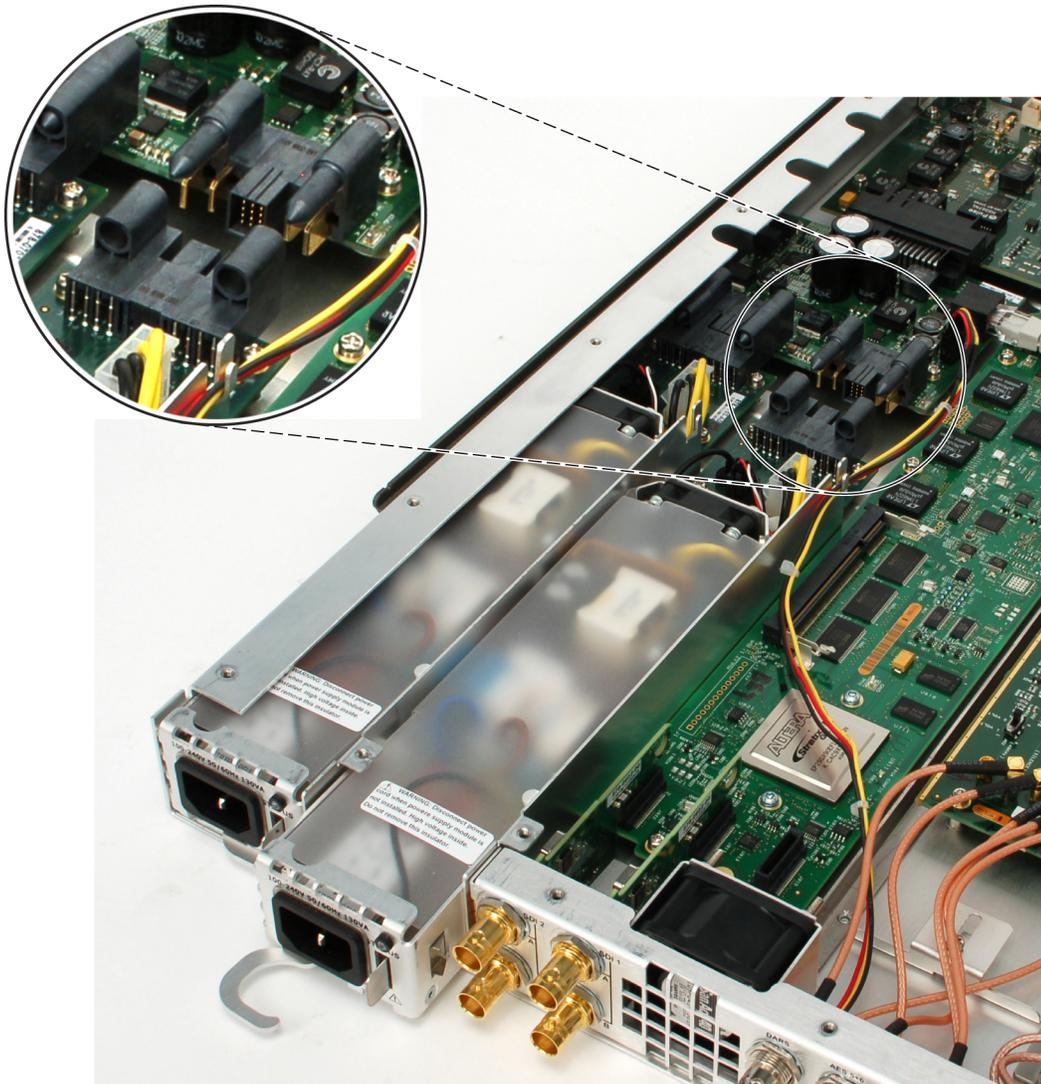

Figure 21: Removing the Power Combiner board
1. Remove all power supply modules from the instrument. (See page 52, *Power supply*.) The power supply modules will disconnect from the Power Combiner board. (See Figure 21.)